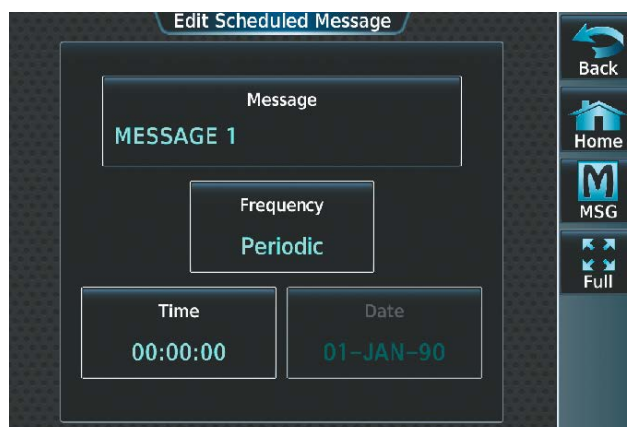

Figure 8-100 Touch Message Button
- 3) Touch the **Message** Button as shown in Figure 8-100.